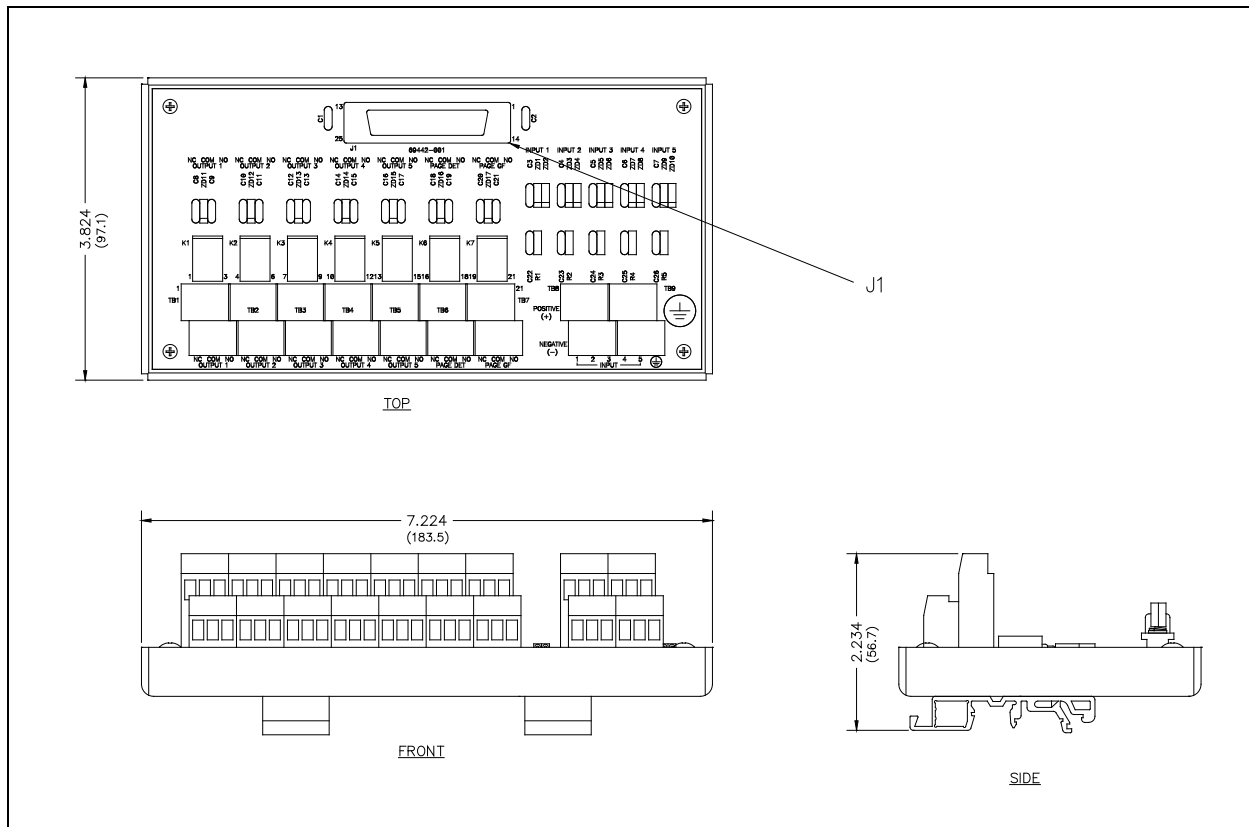

Figure 1. Line Extender Audio Termination Connection Module
2. Plug one end of the DB25 cable assembly into J1 of the I/O Connection Module and secure it by tightening the DB25 connector jackscrews. See Figure 1.